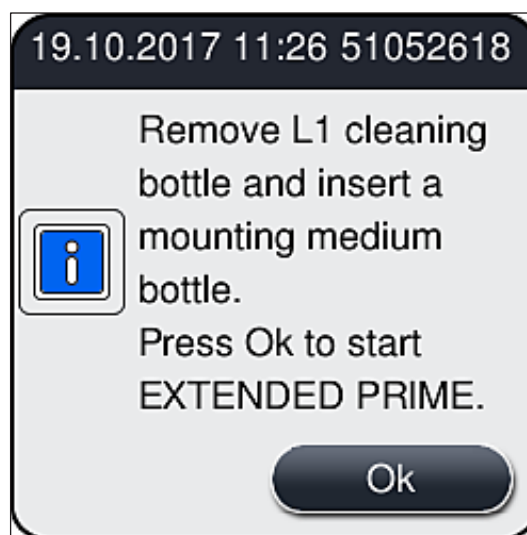

Fig. 105
- » Following this, the user is prompted to remove the cleaning bottle from the instrument and to insert a new bottle with mounting medium. After the insertion, acknowledge the information message (→ Fig. 105) with **Ok**. Dispose of the contents of the cleaning bottle in accordance with laboratory regulations.